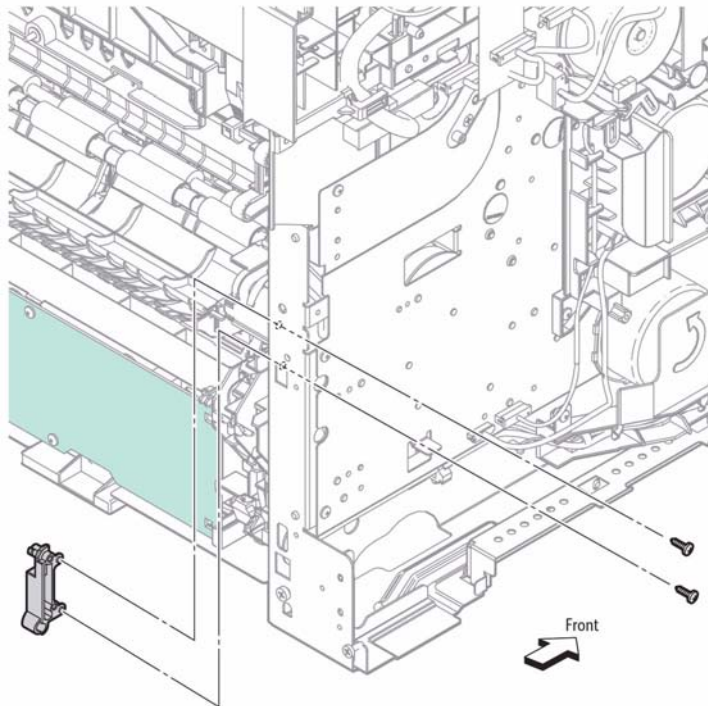

Figure 1 Remove the Rear Hinge Bracket
4. Refer to Figure 1 to locate and remove the two screws (silver, tapping, 8 mm) that attach the Rear Hinge Bracket, and remove the Rear Hinge Bracket.